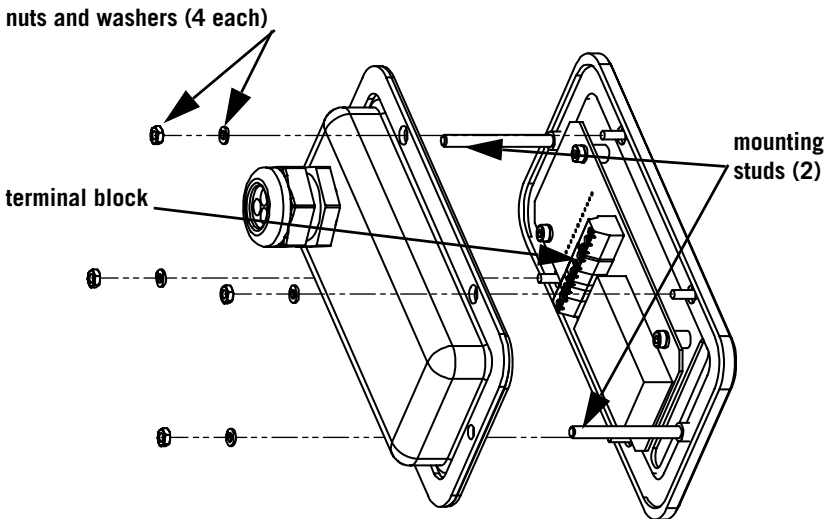

Figure 3-7: JCU Disassembly
Step 2 Remove the four nuts, washers, and lock washers as shown in Figure 3-7.
Step 3 Separate the keypad/joystick assembly from the back enclosure and slide the power and communication cable through the cable seal (Figure 3-7).
- Step 5 Re-attach the keypad/joystick assembly to the back enclosure. The cables will easily slide through the cable seal. Secure using the four nuts, washers, and lock washers as shown in Figure 3-7.